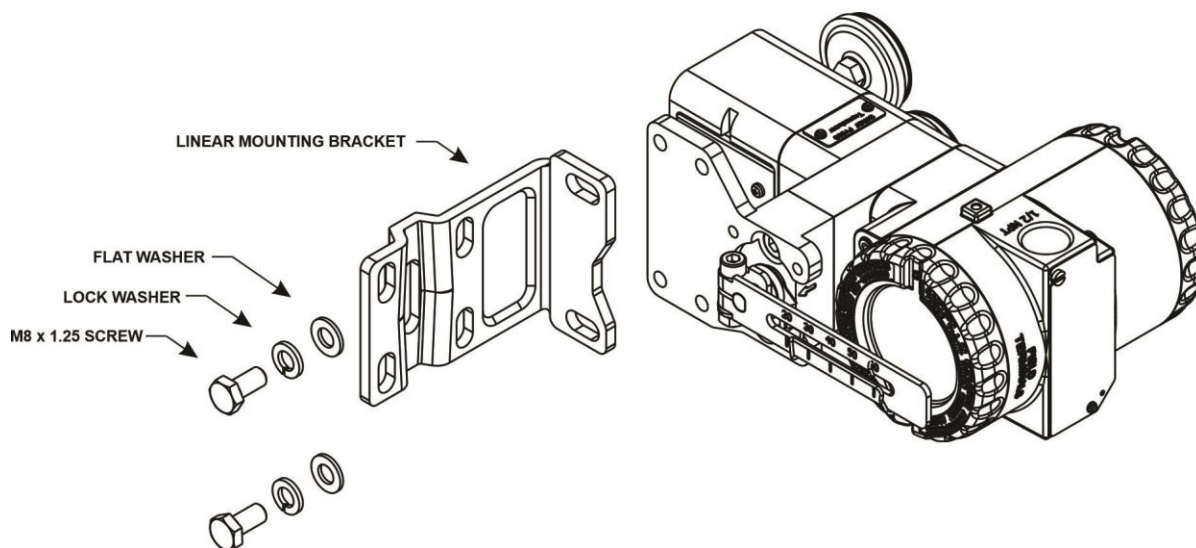

Figure 1.12 – Positioner mounting bracket
6. Refer to figure 1.12. Mount the positioner to the mounting bracket using two M8x1.25 screws, two lock washers, and two flat washers.